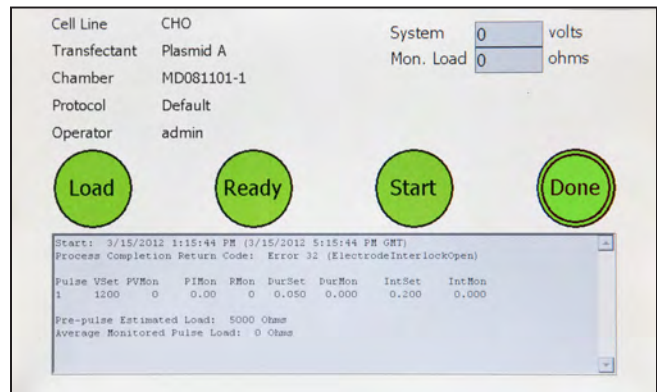

Figure 10: Pulse Delivery Screen — Post-Pulse
6. Touch the Done button to return to the Welcome Screen. The identification fields will be reset. Repeat the procedure for each pulse delivery (See Figure 10).